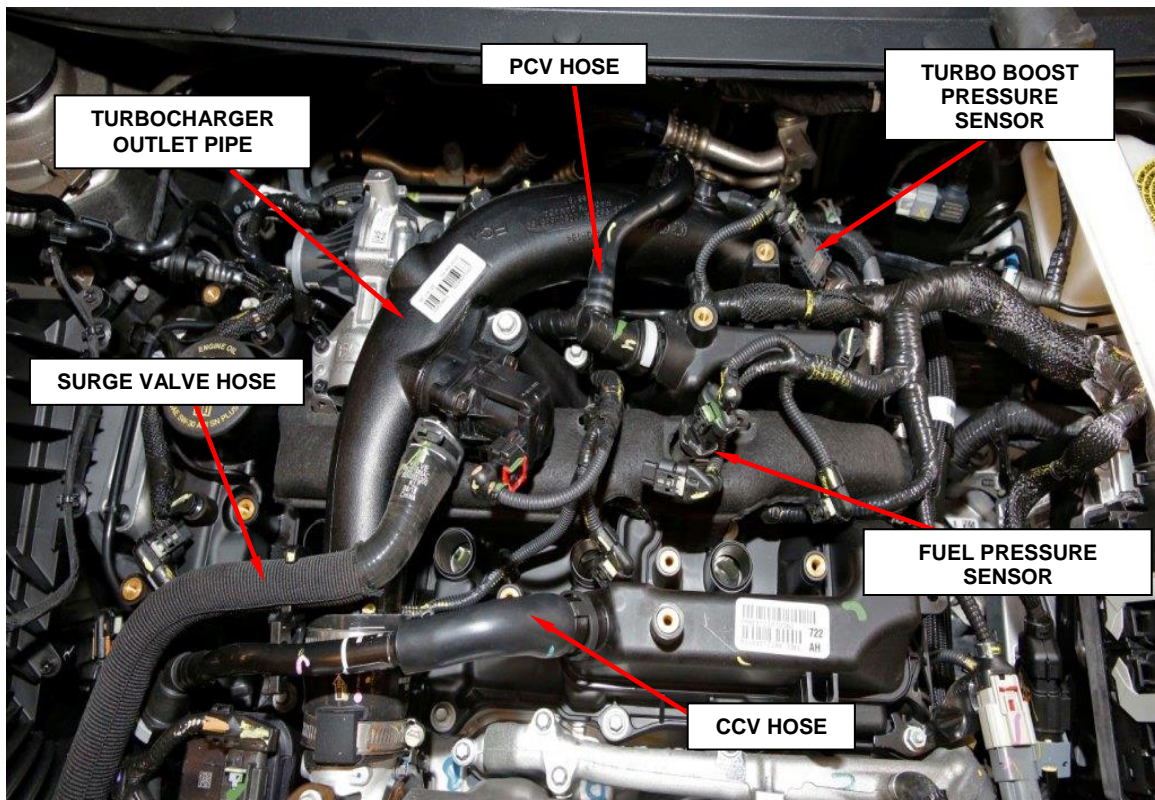

Figure 5 – PCV, CCV Hoses
11. Disengage the Positive Crankcase Ventilation (PCV) hose from the retainer on the turbocharger air outlet pipe (Figure 5).
12. Disconnect the quick connect couplings and remove the PVC hose (Figure 5).
13. Disengage the Closed Crankcase Ventilation (CCV) hose and the surge hose from the retainer on the turbocharger pipe (Figure 5).
14. Disconnect the quick connect couplings and remove the CCV hose. (Figure 5).
15. Loosen the band clamp and remove the surge valve hose from the surge valve (Figure 5).
16. Unlock and disconnect the turbo boost pressure sensor wire harness connection (Figure 5).
22. Disconnect the fuel pressure sensor electrical connector (Figure 5).